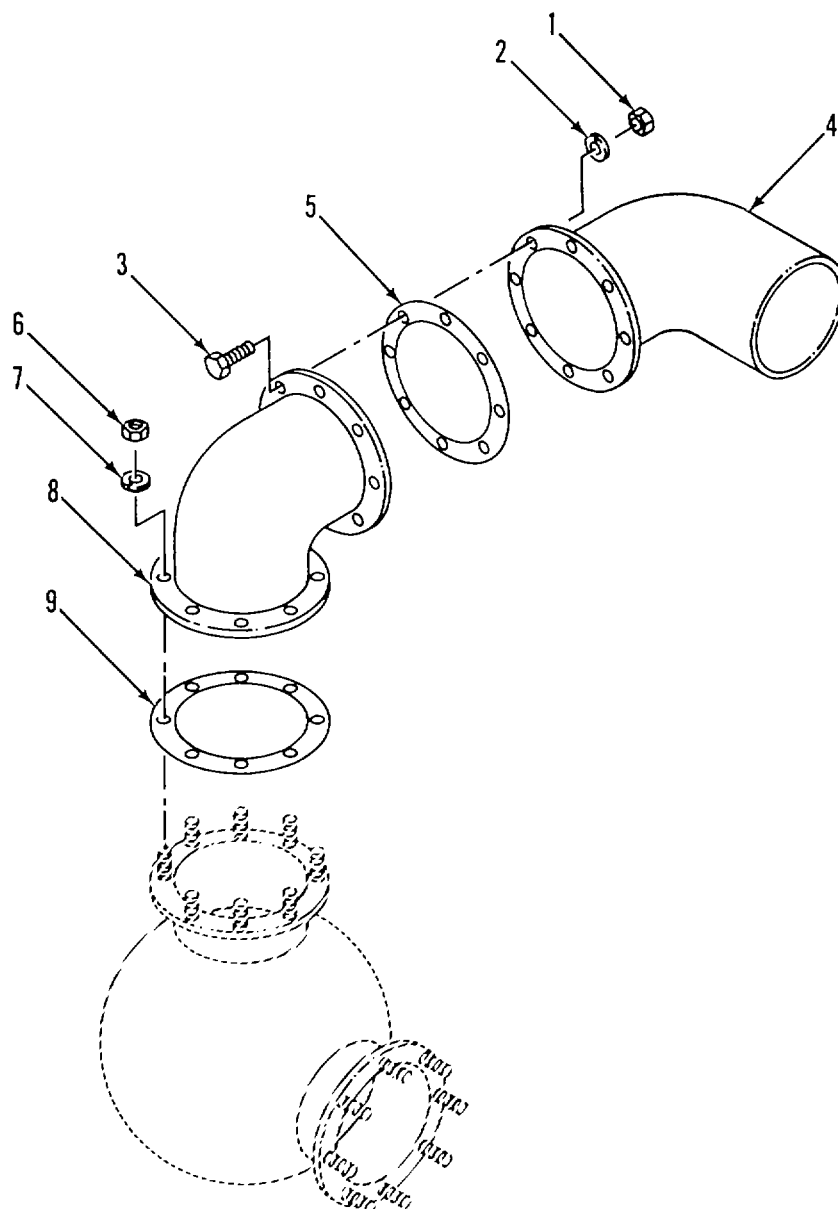

Figure 3-32. Pump Discharge Line
a. REMOVE. (Figure 3-32)
- (1) Remove nuts (1), lockwashers (2) and bolts (3).
- (2) Remove discharge line nipple (4).
- (3) Remove gasket (5).
- (4) Remove nuts (6) and lockwashers (7).
- (5) Remove discharge line elbow (8) and gasket (9).